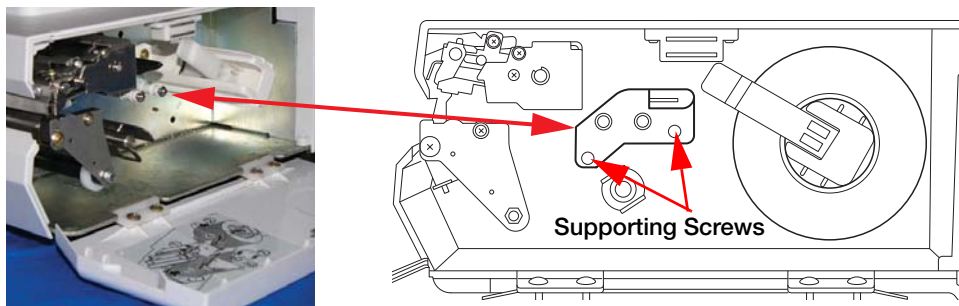

Figure 2. Remove Sensor Support Bracket
- Thread the end of the wire into the hole in the side wall. See Figure 2.